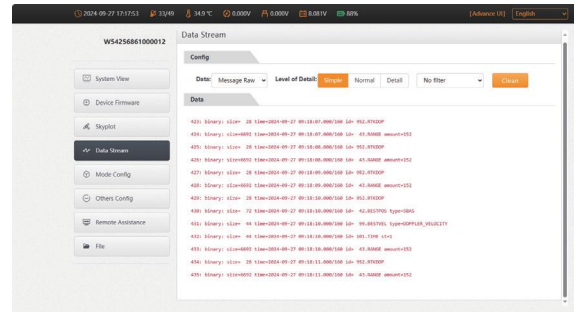

Figure 2.4-3
2. Message Raw: as shown in Figure 2.4-3: